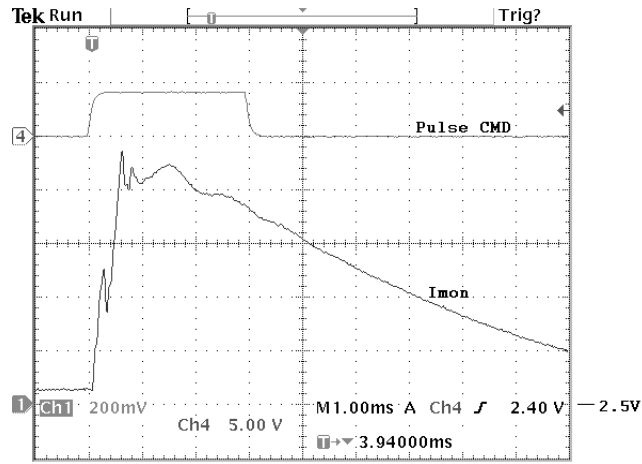

Figure 10 – Bias Current Monitor
6.6	Using an oscilloscope connected on the 'Imon' outputs, adjust all VR2 on the 1500 W modules so as to get 3.33 V during the pulse (reference figure 10).